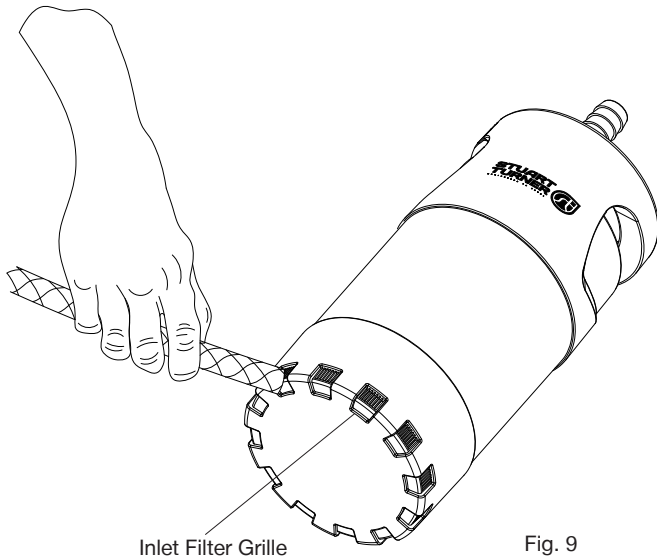

Fig. 9
- 3) Clean integral inlet filter grilles using water pressure from a hose pipe (Fig. 9).